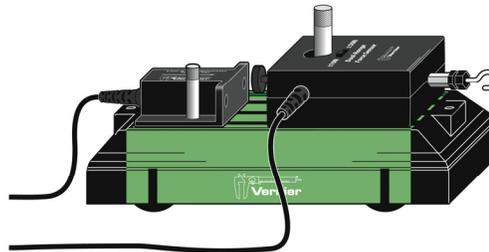

Figure 3
- b. Attach the Force Sensor to a Dynamics Cart so you can apply a horizontal force to the hook, directed along the sensitive axis of the sensor (see Figure 3).